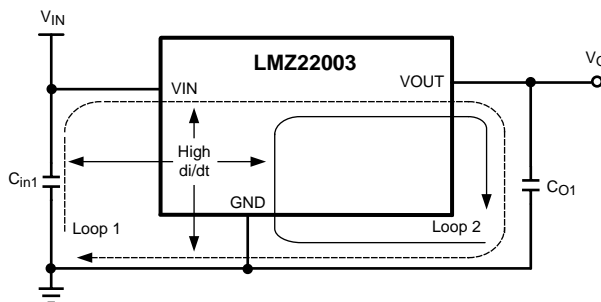

Figure 48. PC Board Layout
From an EMI reduction standpoint, it is imperative to minimize the high di/dt paths during PC board layout as shown in Figure 48. The high current loops that do not overlap have high di/dt content that will cause observable high frequency noise on the output pin if the input capacitor (Cin1) is placed at a distance away from the LMZ22003. Therefore place CIN1 as close as possible to the LMZ22003 VIN and PGND exposed pad. This will minimize the high di/dt area and reduce radiated EMI. Additionally, grounding for both the input and output capacitor should consist of a localized top side plane that connects to the PGND exposed pad (EP).